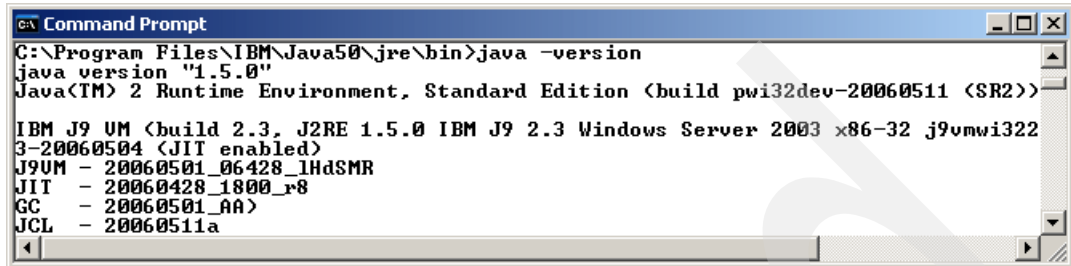

Figure 6-9 Check version command prompt
- Verify the installation and version of the JRE by entering the following commands in a DOS prompt (Figure 6-9):